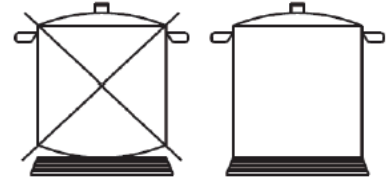

Fig. 9
- Select the appropriately sized pan and with flat bottom for each burner (see the table below and Fig. 9). When the contents of the pan start to boil, turn the knob down to reduce rate position. Always put a lid on the pan.